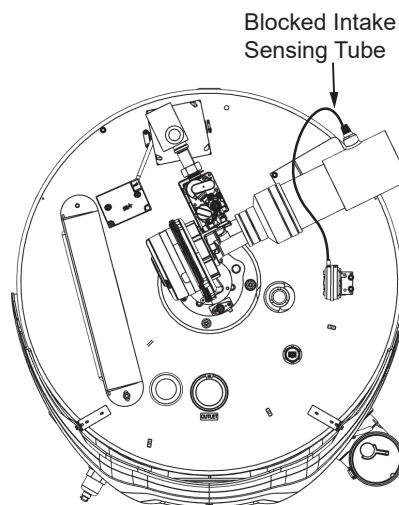

**Figure 26. Blocked Intake Air Switch Sensing Tube**
2. Disconnect the blocked intake-air switch sensing tube. See **Figure 26** for the location.